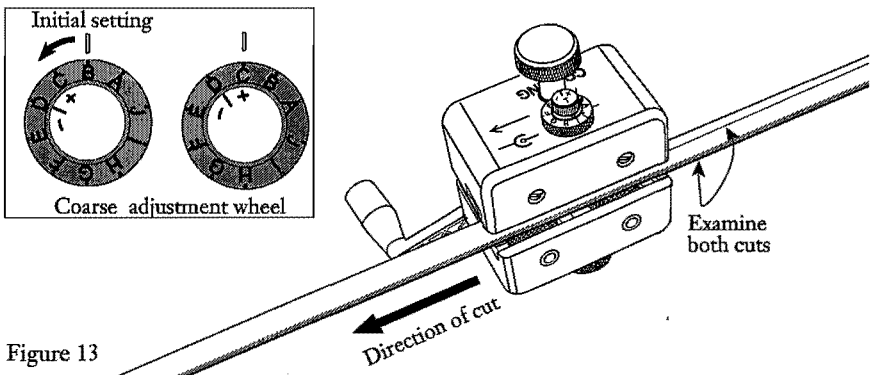

Figure 13
7.4 After approximately 6 inches (15.24 cm) of travel check the depth of the cuts (Figure 13). *If the blades have not penetrated the tube, skip to step 7.6.*
7.5 If either blade has penetrated the tube, then rotate the respective blade's coarse adjustment counterclockwise (to reduce blade depth) to the previous 0.2 mm increment (see Figure 13, inset) and advance the tool another 6 inches. Recheck the depth of cut and repeat process until the blades are no longer penetrating the central tube.